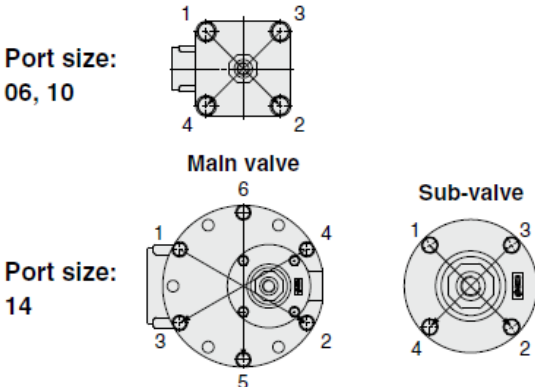

Fig.6 - Hexagon bolt tightening sequence
- Tighten the hexagon bolts diagonally (see Fig.6) using the correct tightening torque values shown in the table below.